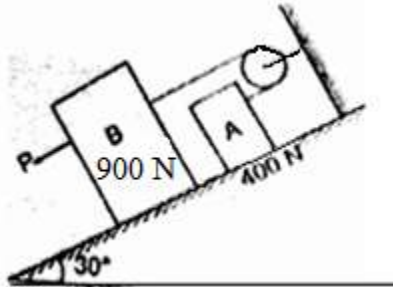

figure-5
5. Determine the force 'P' to cause motion to impend if the co-efficient of friction for both blocks and the plane shown in figure-5 is 0.25. Force developed in the ropes is parallel to the plane. The pulley is frictionless. 16 M